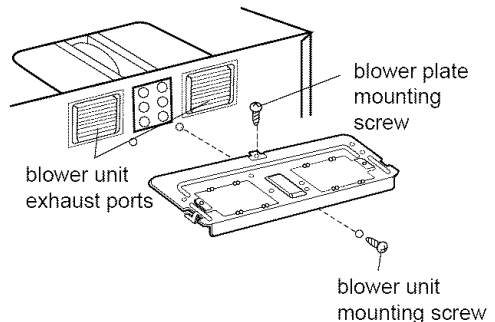

Figure 17
7. Reattach the blower plate to the top of the cabinet as it was originally assembled. Attach with one blower unit mounting screw and then one blower plate mounting screw. See **Figure 17**.
NOTE: When using wall venting, you need one blower unit mounting screw. See **Figure 17**.